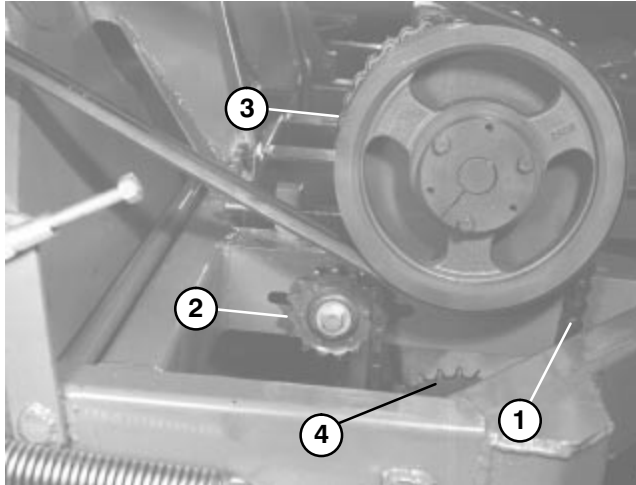

Figure 40
- A. Loosen drive chain idler sprocket and back it off completely (Fig. 40).
- B. Loosen (4) capscrews on gear box base and (2) capscrews on gear box shields.
Drive Chain (Model 07052 only) (Fig. 40)